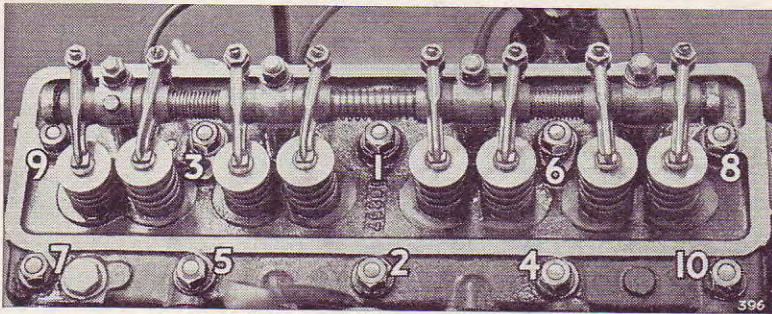

Fig. 15. Order of tightening cylinder head nuts.
Once the cylinder head has been removed it is important that the crankshaft is not rotated unless the cylinder sleeves are firmly clamped down against their seatings. This can be accomplished by using two tubes and washers fitted over the cylinder head studs marked 4 and 5, Fig. 15, to overlap the adjoining cylinder liners, each being secured with a cylinder head nut. If this precaution is not observed the sleeves may rise, with consequent risk of water leaking into the crankcase after assembly. On removal of the head and withdrawal of the push rods, the passage ways in the block leading to the camshaft and thence to the crankcase and sump must be sealed off with a clean rag or masking tape. The same applies to the rocker shaft oilway, both in the head and the block, to prevent the entry of carbon particles which could do serious harm to the engine.
5. When replacing the cylinder head nuts, tighten them gradually in the sequence shown in Fig. 15, in order to produce an even pressure on the gasket and prevent undue strain in the cylinder head casting.
After the first 1,000 miles (1,600 km.) the cylinder head nuts should be checked for tightness, with engine hot, in the order shown in Fig. 15.